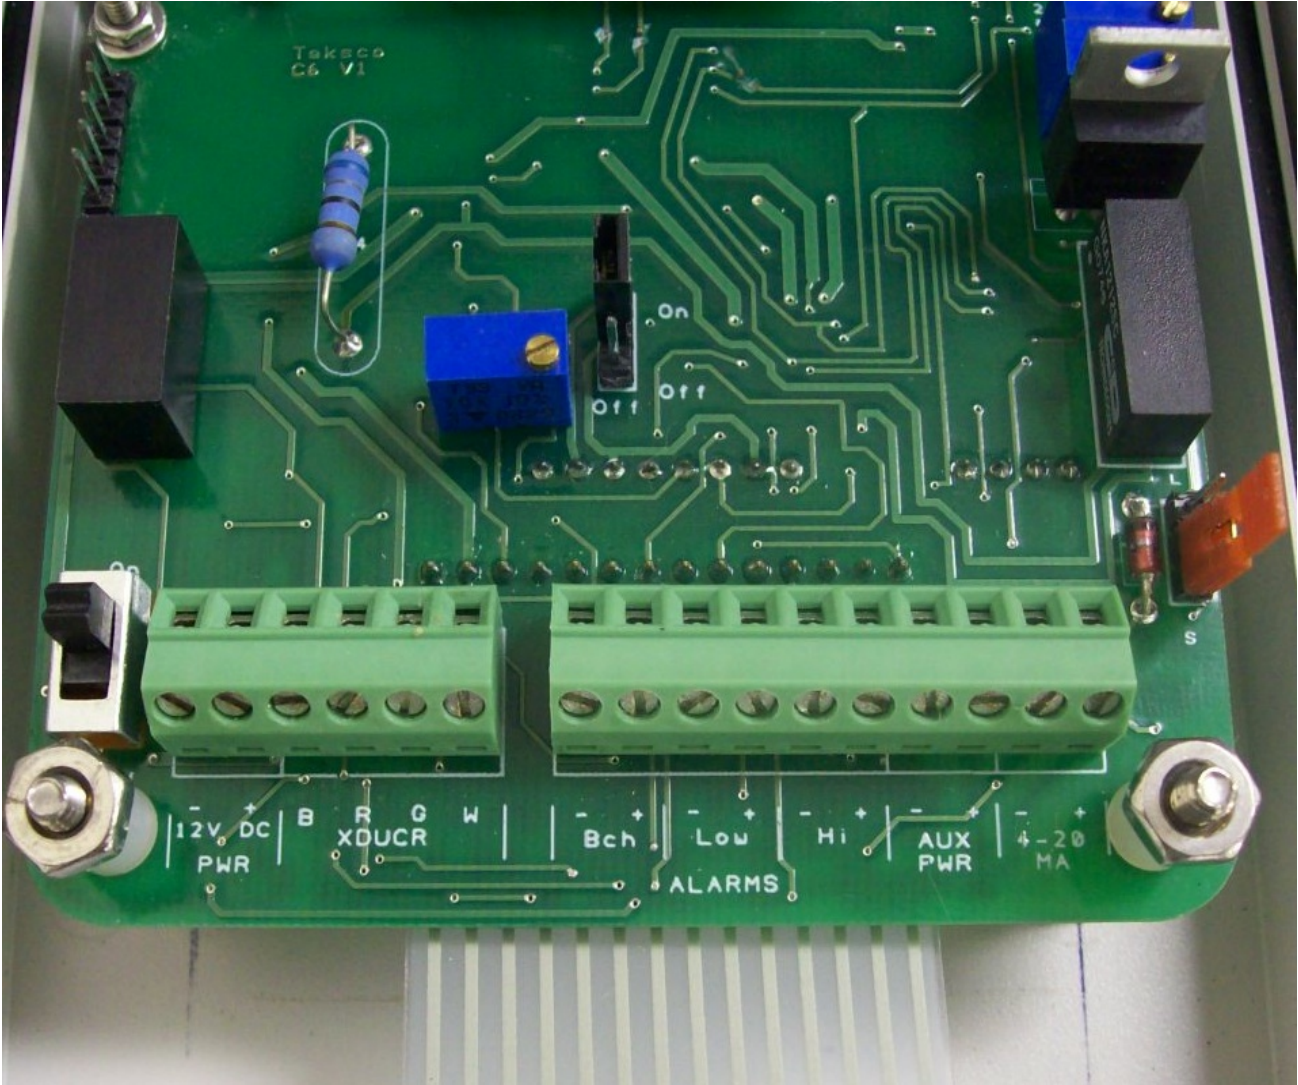

Figure 2-8. Another view of processor board connections
- If needed, connect the DC power cable wires to the 12 VDC PWR section of the processor board using Figure 2-6 and Figure 2-8 as a guide.
- Move the switch to the on position. See Figure 2-8 for the switch location.